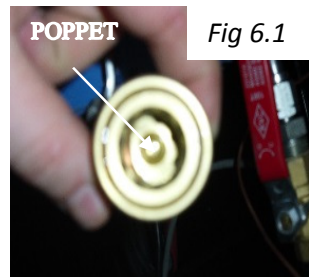

Fig 6.1
6) Using a screwdriver, DEPRESS the poppet (Fig 6.1) inside the QUICK COUPLER on the FILL HOSE with the pump running and the 1/2" BALL VALVE OPEN. Hold the poppet open until you get a steady stream of HTF from the QUICK COUPLER. Turn pump OFF. This is necessary to lubricate the rubber diaphragm in the pump. In the future the pump will self-prime.